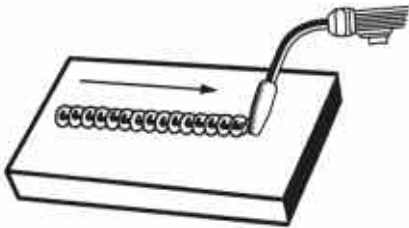

Figure 19. Stringer Bead
1. The **STRINGER BEAD** (Figure 19) is formed by traveling with the gun in a straight line while keeping the wire and nozzle centered over the weld joint. This is the easiest type of bead to make.